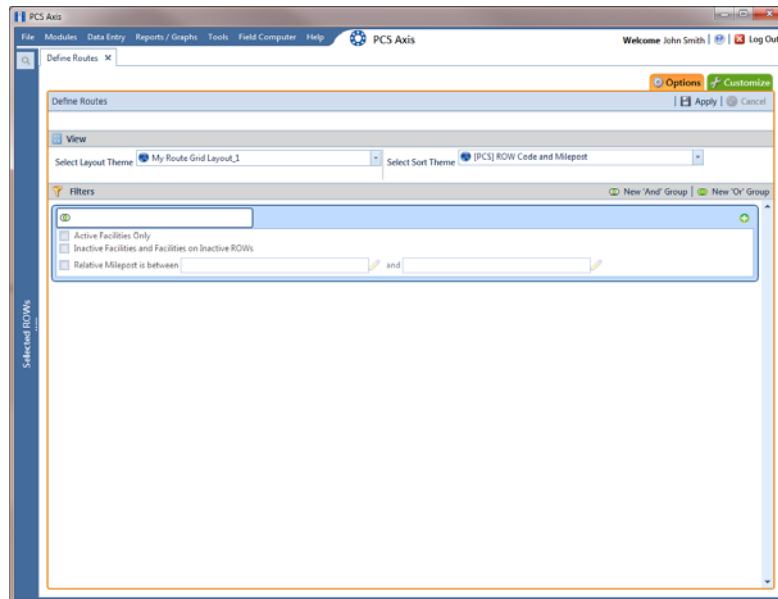

Figure 8-43. Options
- a Click the **Options** tab  to open the options page (Figure 8-43, page 394).